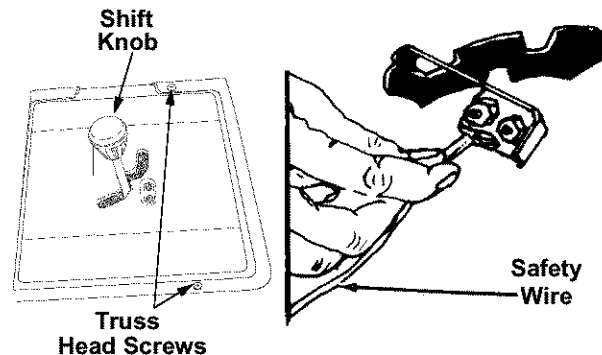

Figure 24
- Place shift lever in neutral position. Unscrew the shift knob and the speed control knob (if located on the console). Remove the two truss head screws which secure the transmission cover. See Figure 24.
- Lift the transmission cover. Unplug the safety wire from beneath the transmission cover. See Figure 24. Remove transmission cover.